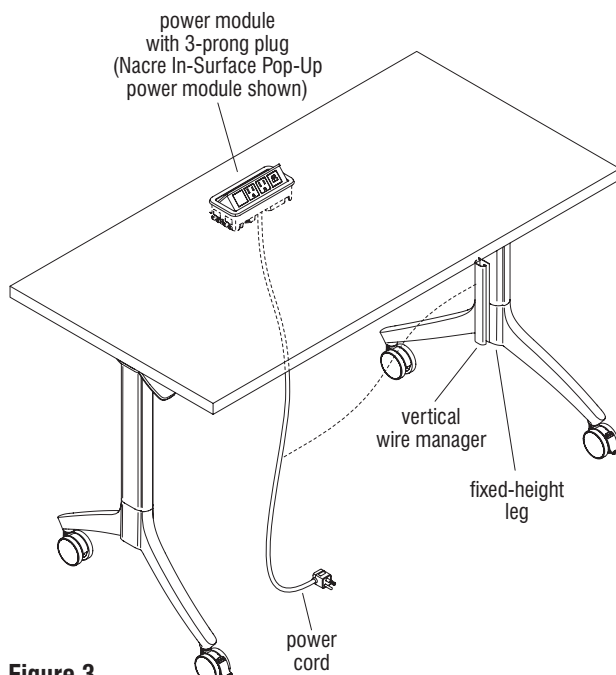

Figure 3
3. Insert the power module cord into the wire manager (Figure 3).